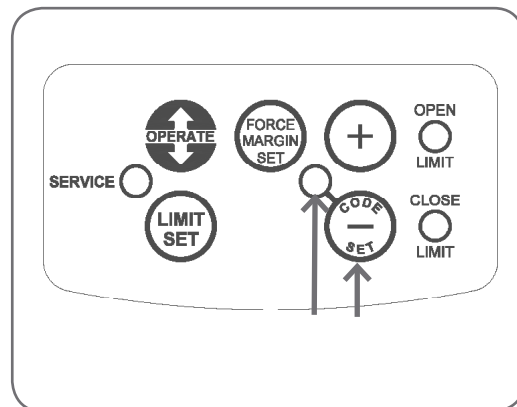

Fig.33
19.6- To Erase Programmed Codes (Fig.33)